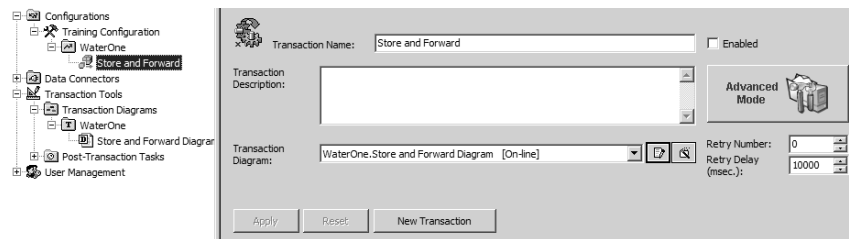

Figure L4.8 - Store and Forward transaction
2. The transaction configuration should appear at the right pane as shown in Figure L4.8.